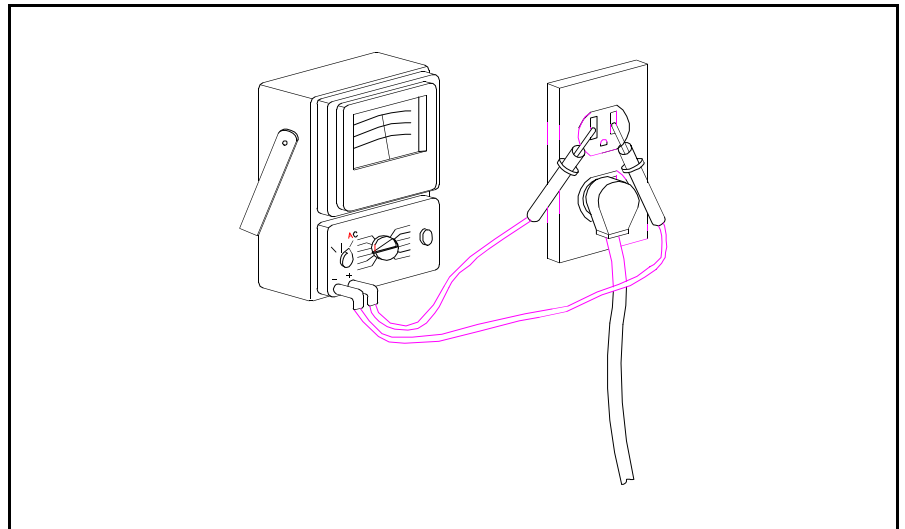

Figure 4.42 120 Volt AC Supply Check
5. Check for 120 volts AC at the receptacle to which the refrigerator is connected, as shown in Figure 4.42. If 120 volts not present, investigate/repair source.